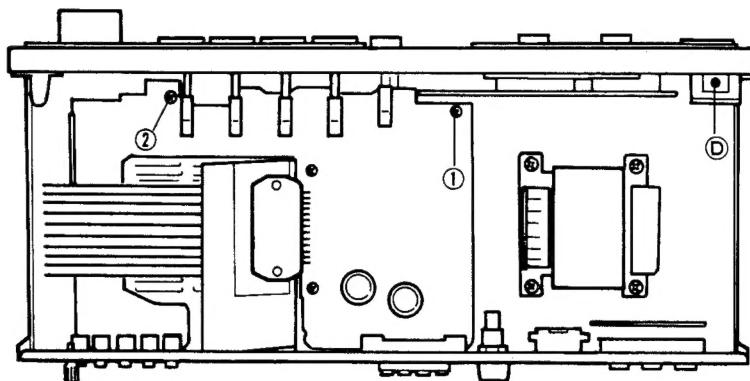

Fig. 2
4. Remove screws ④ ~ ⑦ and plastic rivet ⑩ to set the front panel free. (Fig. 2, Fig. 4)